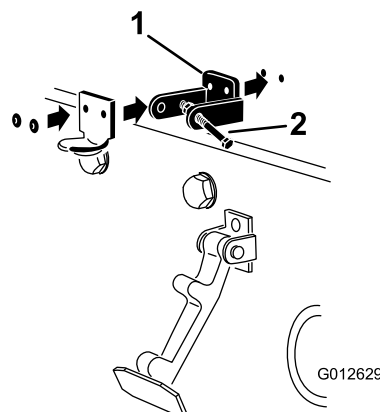

Figure 4
3. While aligning the mounting holes, position the CE lock bracket and the hood latch bracket onto the hood. The lock bracket must be against the hood (Figure 4). Do not remove bolt and nut assembly from the lock bracket arm.
5. Rivet the brackets and the washers to the hood (Figure 4).